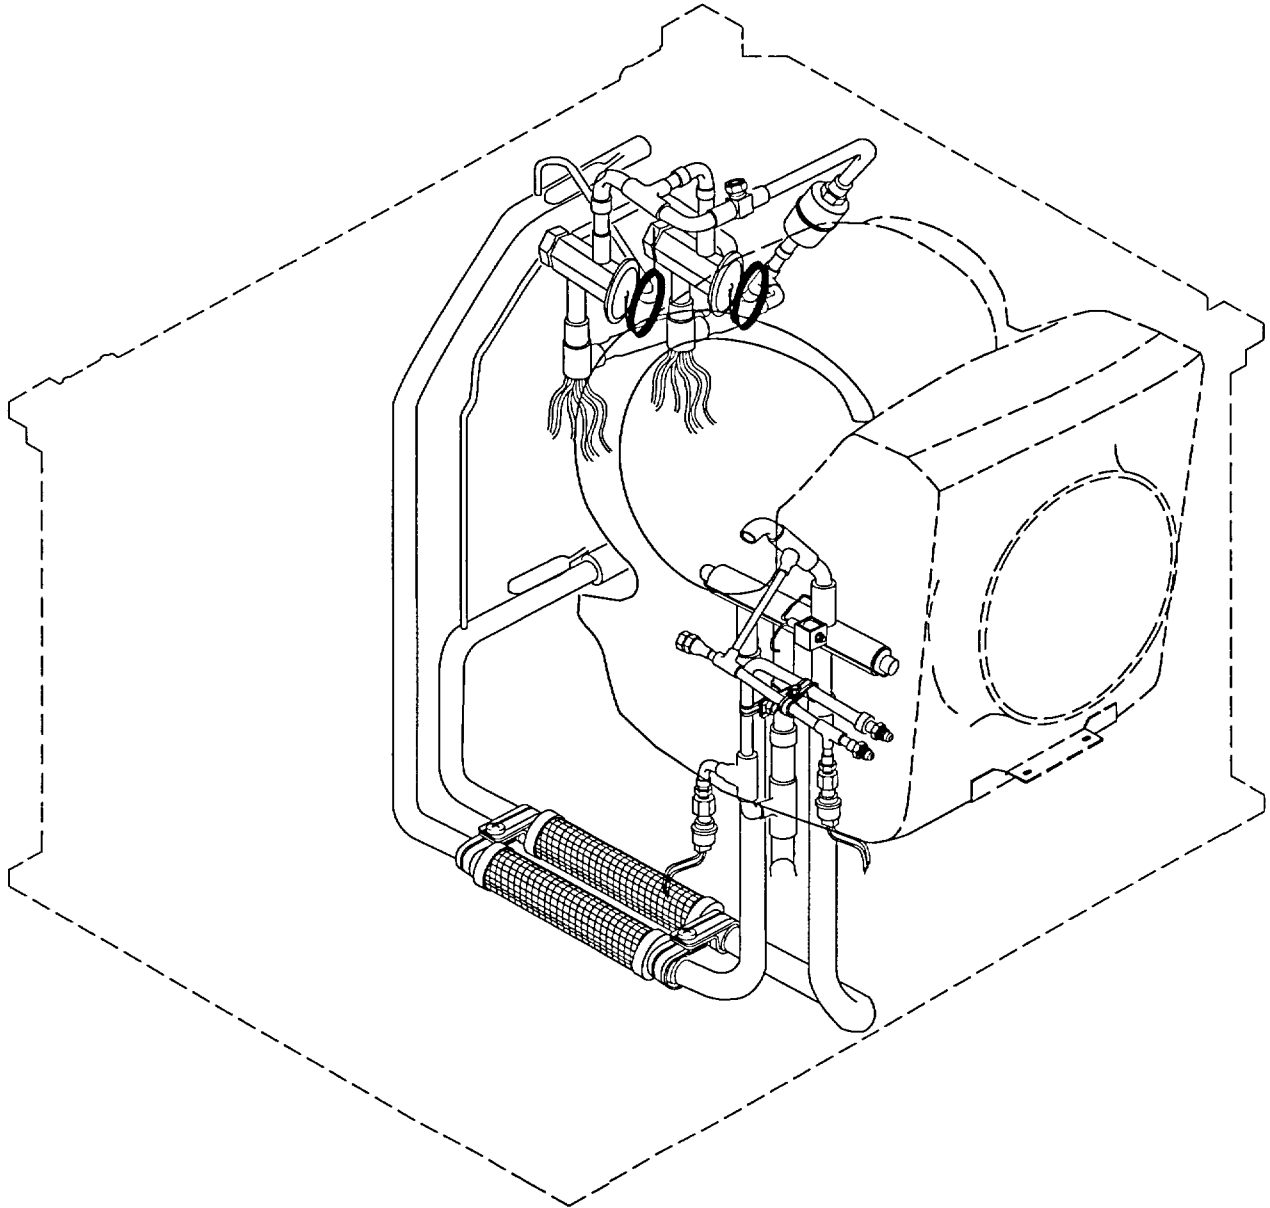

Figure 5-8. Tubing And Fittings
- a. **Testing.** See figure 5-8.
b. **Removal.** See figure 5-8.
- (1) Remove and recover system refrigerant per paragraph 5.4.
- (2) Remove insulation as necessary.
- (3) Purge, per paragraph 5.5, the refrigerant system and de-braze, per paragraph 5.6, any fitting or tubing that was leaking.
- c. **Installation.** See figure 5-8.
- (1) Install tubing or fittings as necessary then purge the refrigerant system per paragraph 5.5 and braze in place per paragraph 5.6.
- (2) Replace filter- drier per paragraph 5.16.
- (3) Leak check the refrigerant system per paragraph 5.7, then evacuate per paragraph 5.8, and charge per paragraph 5.9.
- (4) Install insulation if removed and secure with insulation tape as necessary.
- (5) Install any panels removed to access tubing and fittings.
- (6) Close and secure cover.